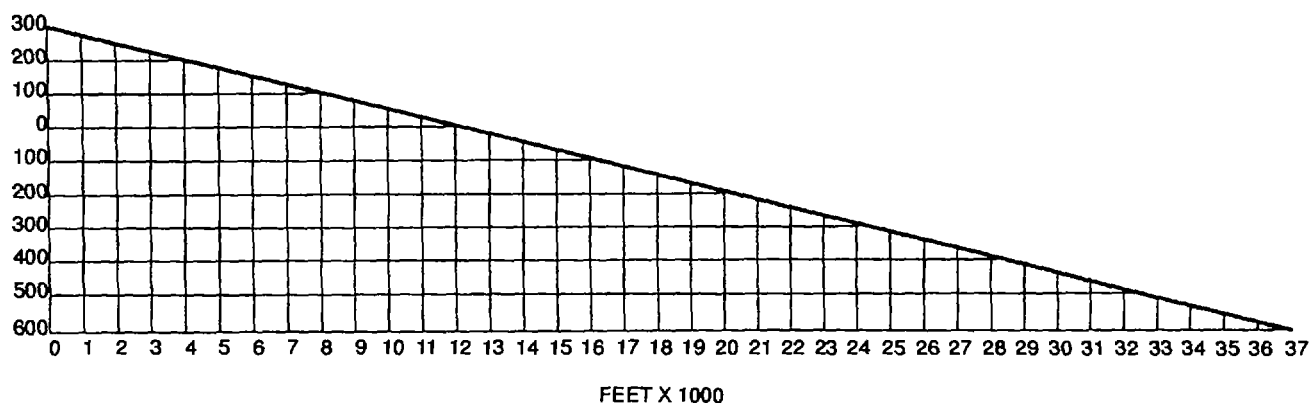

Figure 2-3. Spacing Triangle
- h. Spacing Triangle. To construct a spacing triangle (Figure 2-3), obtain a piece of paper, transparent sheet, or cardboard thick enough to be used as a straightedge. Then proceed as follows: